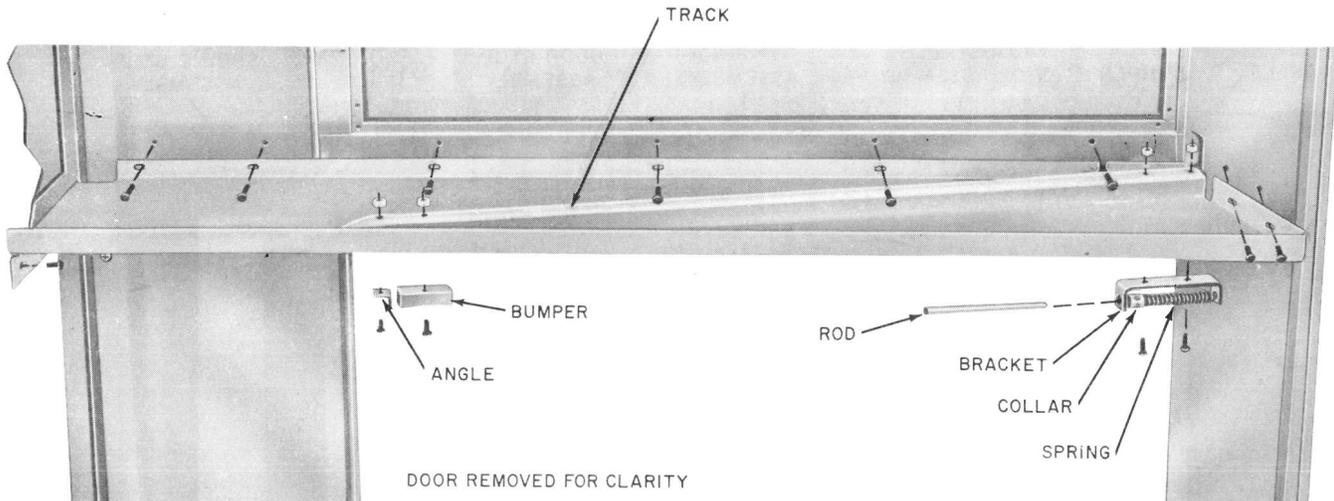

Fig. 4—Installation of Door Track
5.04 When worn door track is interfering with operation of door, replace track, as shown in Fig. 4.